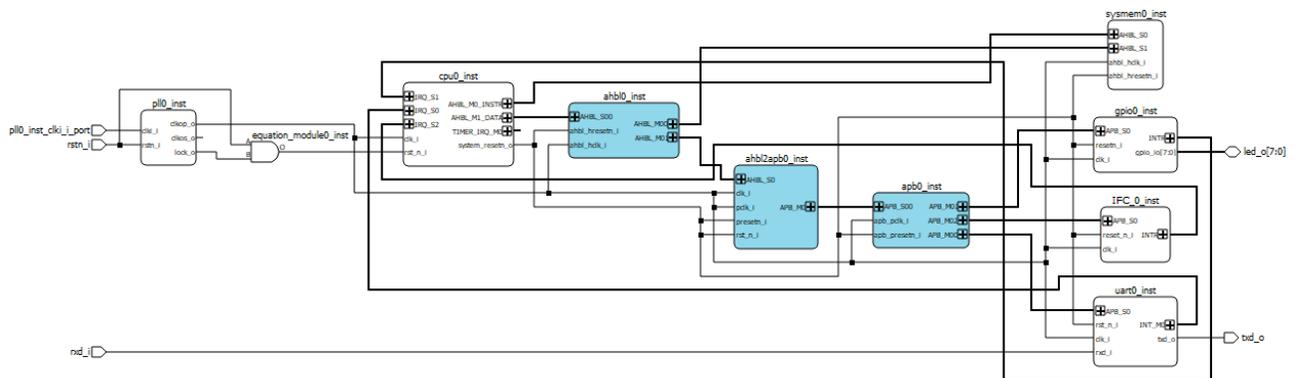

Figure 6.1. Internal Flash Controller IP for MachXO5-NX in Propel SoC Project
9. Connect the instantiated IP to the system. Refer to Figure 6.1 for the connections used in this IP. You will need to update other components of the system for clock and reset sources, interrupt, and bus interface.